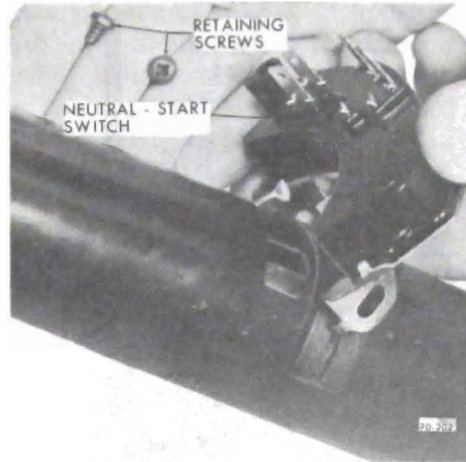

Figure 90-115 Removing or Installing Switch
2. (Automatic Transmission) Remove the two screws holding the neutral-start switch and remove switch. See Figure 90-115.
(Manual Transmission) Remove the two screws holding the back-up switch and remove switch. See Figure 90-115.
6. (Automatic Transmission) Install the neutral-start switch, making certain the proper screws are used. See Figure 90-115.
(Manual Transmission) Install back-up switch, make certain only the proper screws are used. See Figure 90-115.